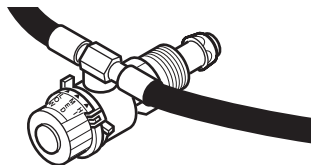

Figure 2 - Attaching Burner Hoses to Regulator
3. Connect the burner hoses together as shown in Figure 2. Wrench tighten to insure leak tight connection.